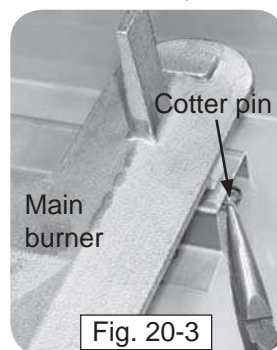

Fig. 20-3
3. Remove the cotter pin from the left or right rear burner anchoring peg by pulling it straight out of the cotter pin hole using fingers or needle-nose pliers (Fig. 20-3).